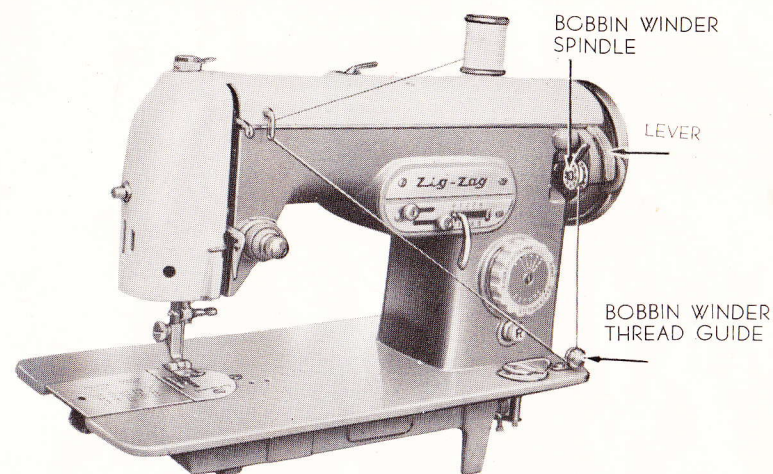

Fig. 2
2. Place a spool of thread on the spool pin (Fig. 2). Draw thread from the spool over guide then downward across machine from left to right.